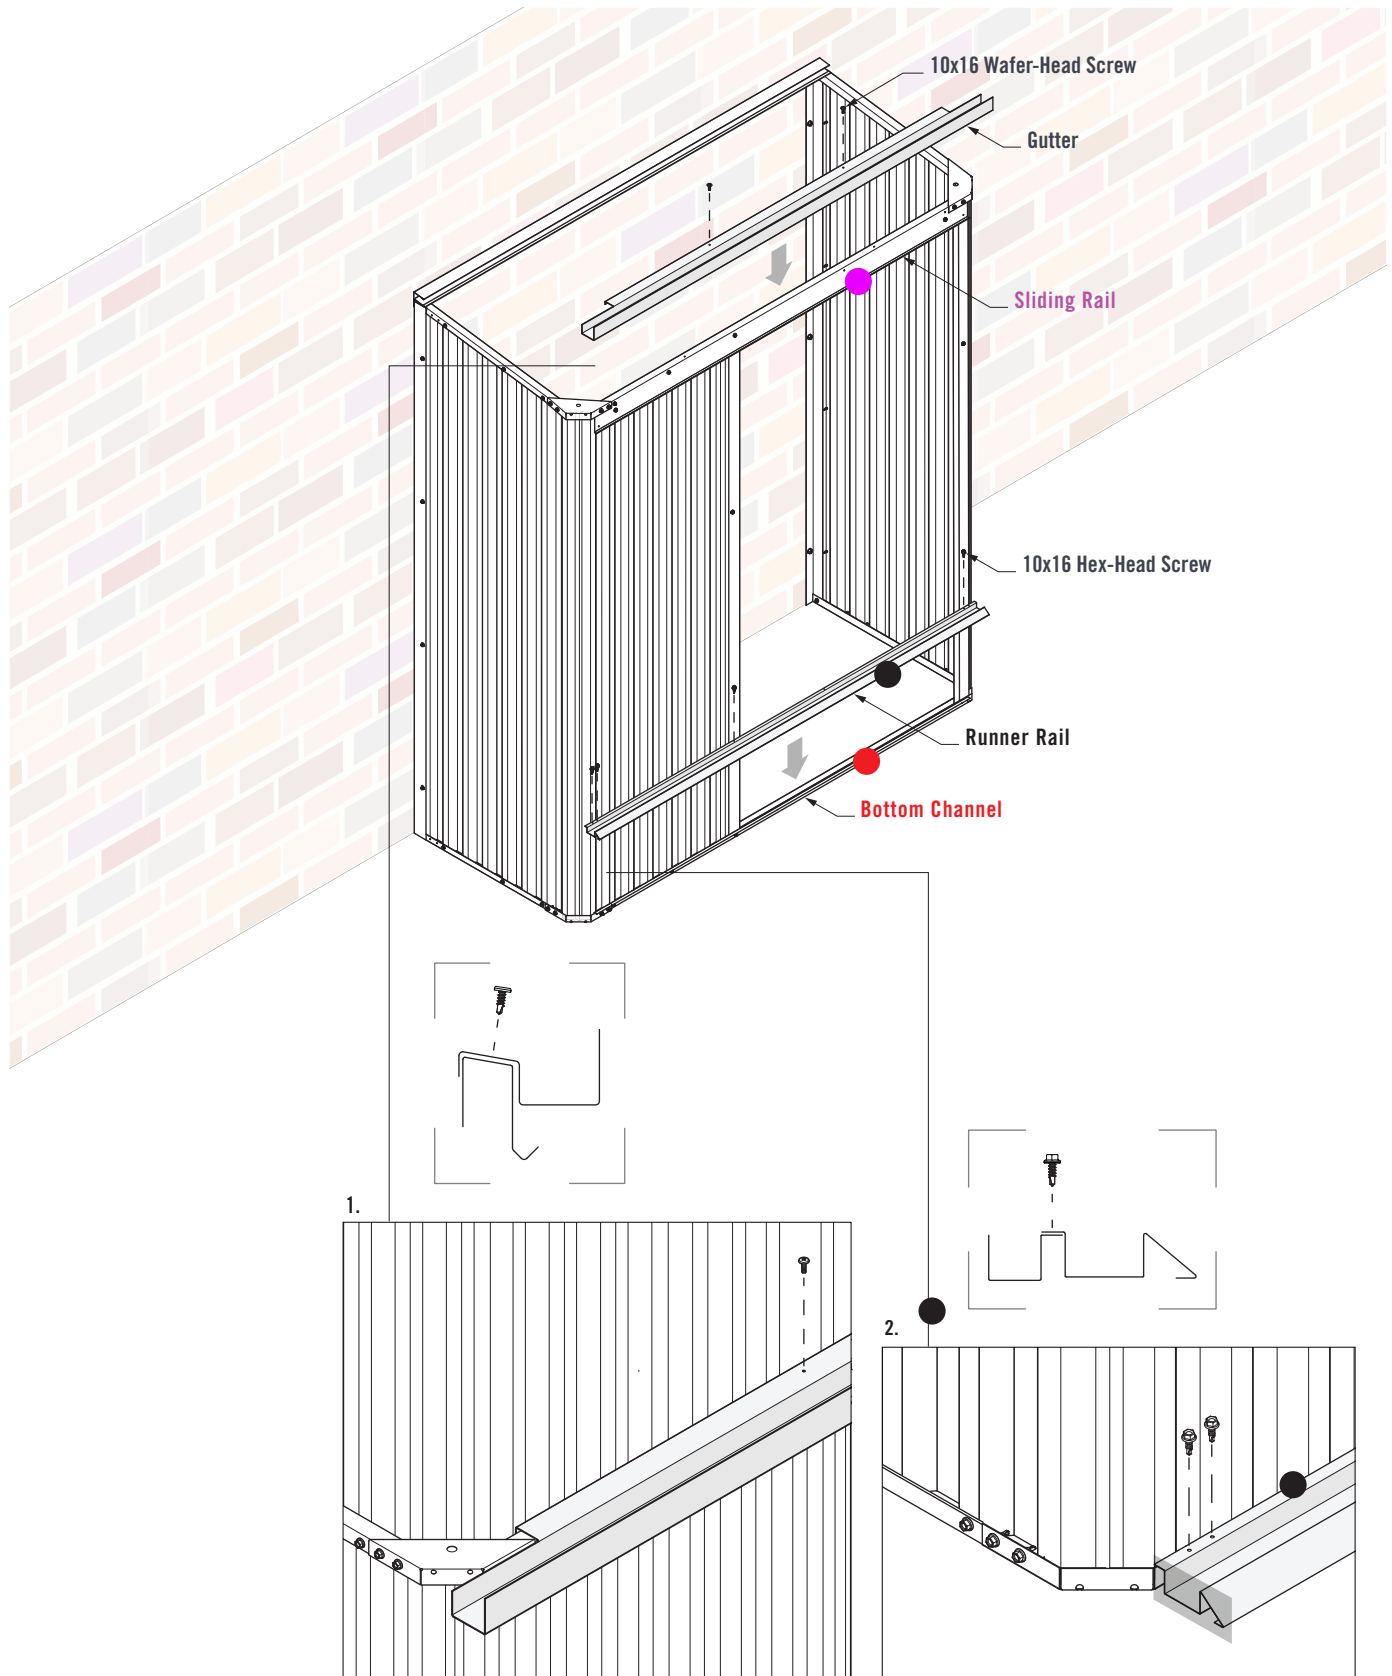

FIGURE 7.3
1. Fit the Gutter over the **Sliding Rail**. Fasten two 10x16 Wafer-Head Screws through the pilot holes of the Gutter and into the **Sliding Rail** (Figure 7.3).
2. Fit the Runner Rail over the **Bottom Channel**. Ensure the end of the Runner Rail is in line with the edge of the Corner Bracket. Fasten four 10x16 Hex-Head Screws through pilot holes in the Runner Rail and into the **Bottom Channel** (Figure 7.3).